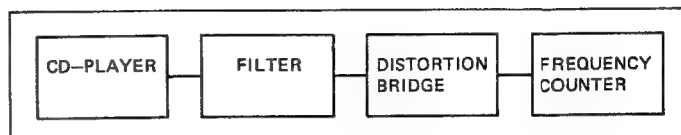

Fig. 4.20
-> Fig. 4.20
- Measuring circuit according to Fig. 4.20 with distortion measurement filter on the VARIABLE OUTPUT [2].